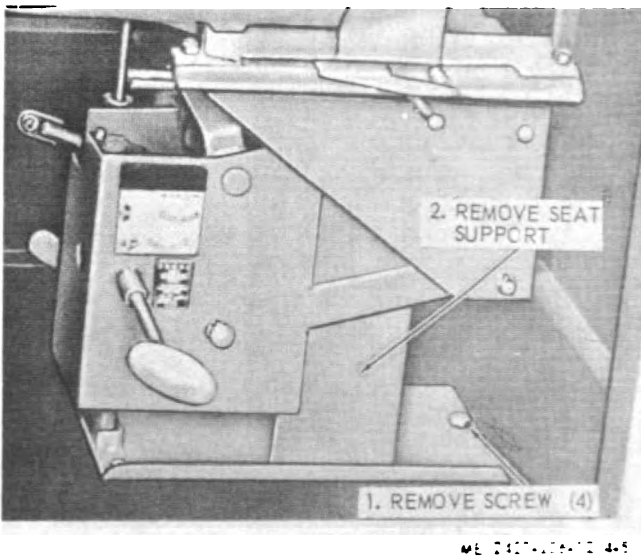

Figure 4-50. Seat support, removal and installation.
(1) Remove capscrew and flat washer securing operator's seat belt and backrest to shell. Remove capscrew securing seat cushion to shell. Remove capscrew and nut securing shell to seat support. Remove passengers seat in a similar manner.
(2) Remove seat support as illustrated in figure 4-50.
e. Installation. Install seat support as illustrated in figure 4-50. Install seats and seat belts in reverse procedure of *a* above.